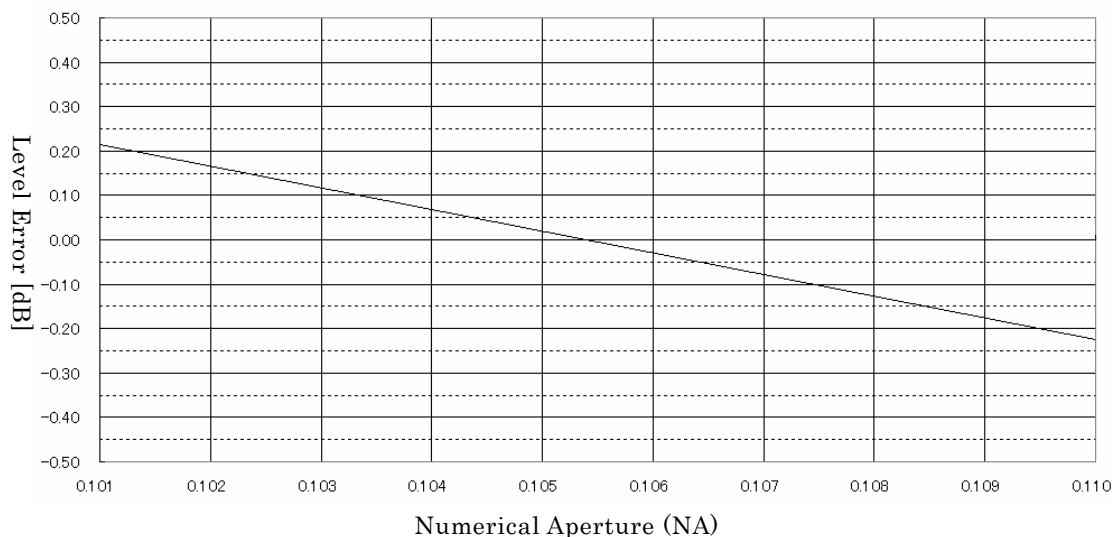

Fig. 5-1 Input Optical Fiber Numerical Aperture and Level Error
5.1.2 Input Optical Fiber Numerical Aperture (NA) and Level Measurement Values
The level measurement error of the unit changes as shown in Fig. 5-1, according to the numerical aperture (NA) of the optical fiber connected to the input connector. The unit's absolute level is calibrated using a 9.5/125 μm single-mode optical fiber (SSMA type in JIS C6835, with PC polishing, 9.5 μm mode field diameter, and 0.104 to 0.107 NA). Even if a single-mode optical fiber is used, the level accuracy will be outside the specifications if the NA is not in the range shown above.